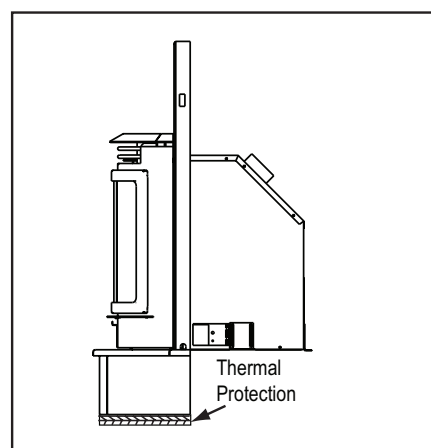

Figure 21.4
10. Thermal protection of 1-1/2 inches (38mm), "k" value of 0.49 and R value of 3.06 under the zero-clearance trim support. **Figure 21.4.**